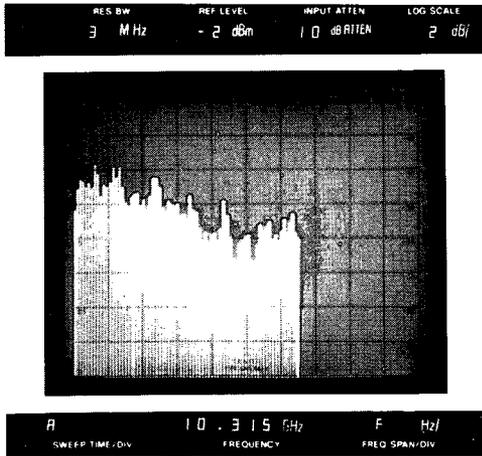

Figure 4-18. Typical Frequency Response, 10.5 to 18 GHz
- t. Set spectrum analyzer PERSIST control fully clockwise. Set sweep oscillator mode switch to automatic sweep and press spectrum analyzer ERASE pushbutton. STORE display after one full plot as shown in Figure 4-18. Record the greatest positive and negative deviations from center horizontal graticule line.